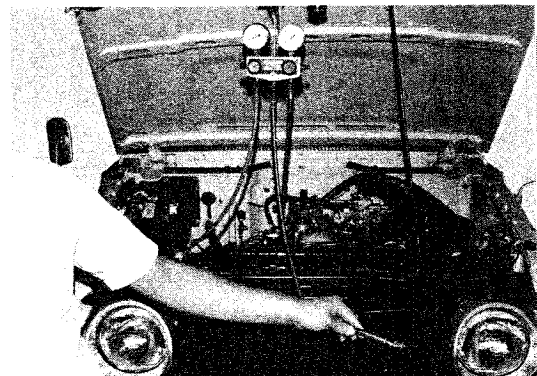

Fig. 51
- 3) Discharge the refrigerant very slowly from the refrigeration system. See Fig. 51.